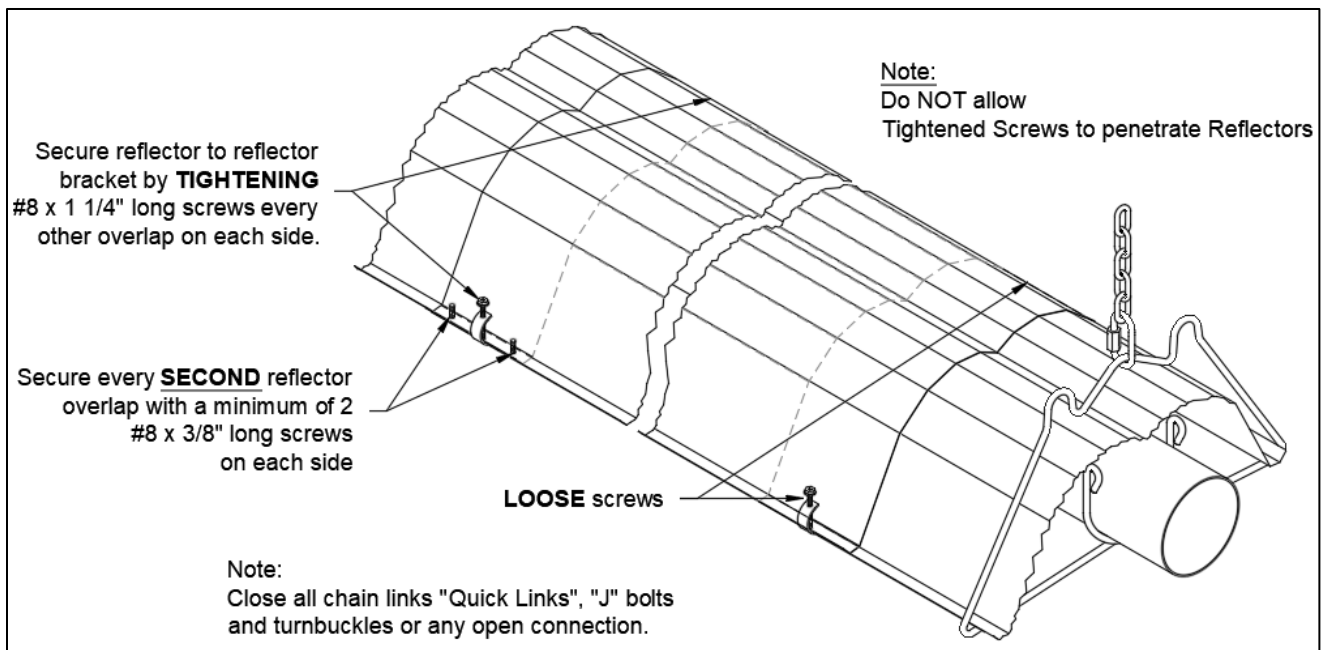

Figure 15: Reflector Supports Installation and Reflector Overlap
- Secure every second reflector overlap together with a minimum of 2 - #8 x 3/8" long screws (not supplied), and secure reflector to the reflector bracket at this point by tightening down #8 x 1 1/4" screws supplied with reflector brackets (Figure 15). The remaining reflector overlap joints and reflector brackets are left loose to accommodate system movement.